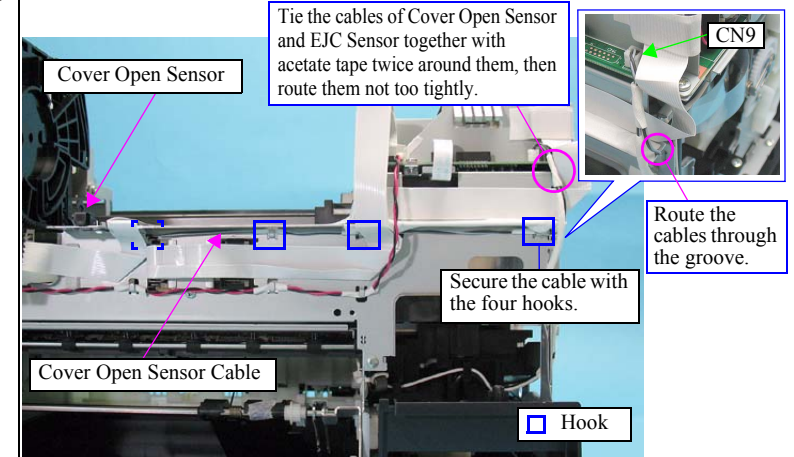

Figure 4-46. Installing the Cover Open Sensor
1. Disconnect the Cover Open Sensor Cable from CN9 connector on the Main Board. See Figure.4-46.